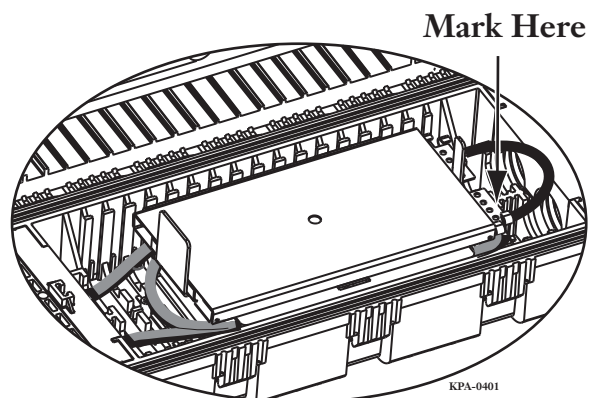

Figure 23
- Step 3:** Route distribution buffer tube into the lower right corner of the splice tray. Mark the buffer tube where it enters the splice tray (Figure 23).